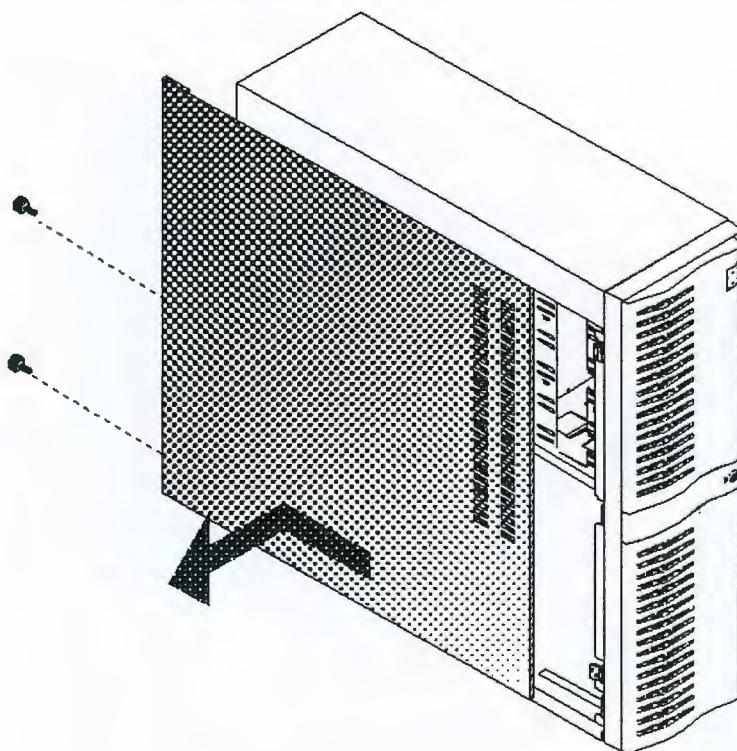

Figure 2: Removing the Side Cover
1. Remove the screws located on the rear of the system, as shown in Figure 2.